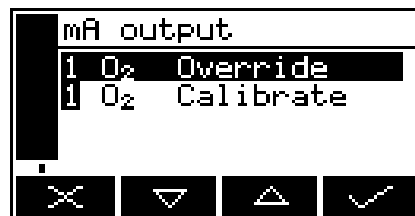

Figure 24 – The mA output service screen
4. When the mA output has been correctly calibrated, press the  soft key: the mA output service screen (Figure 24) will then be displayed again.